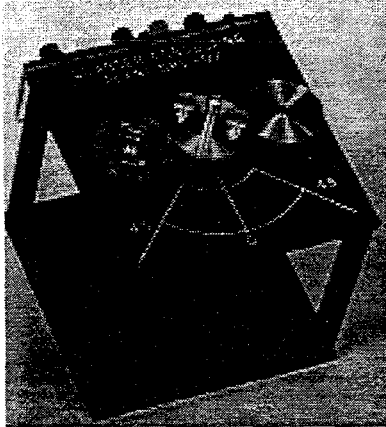
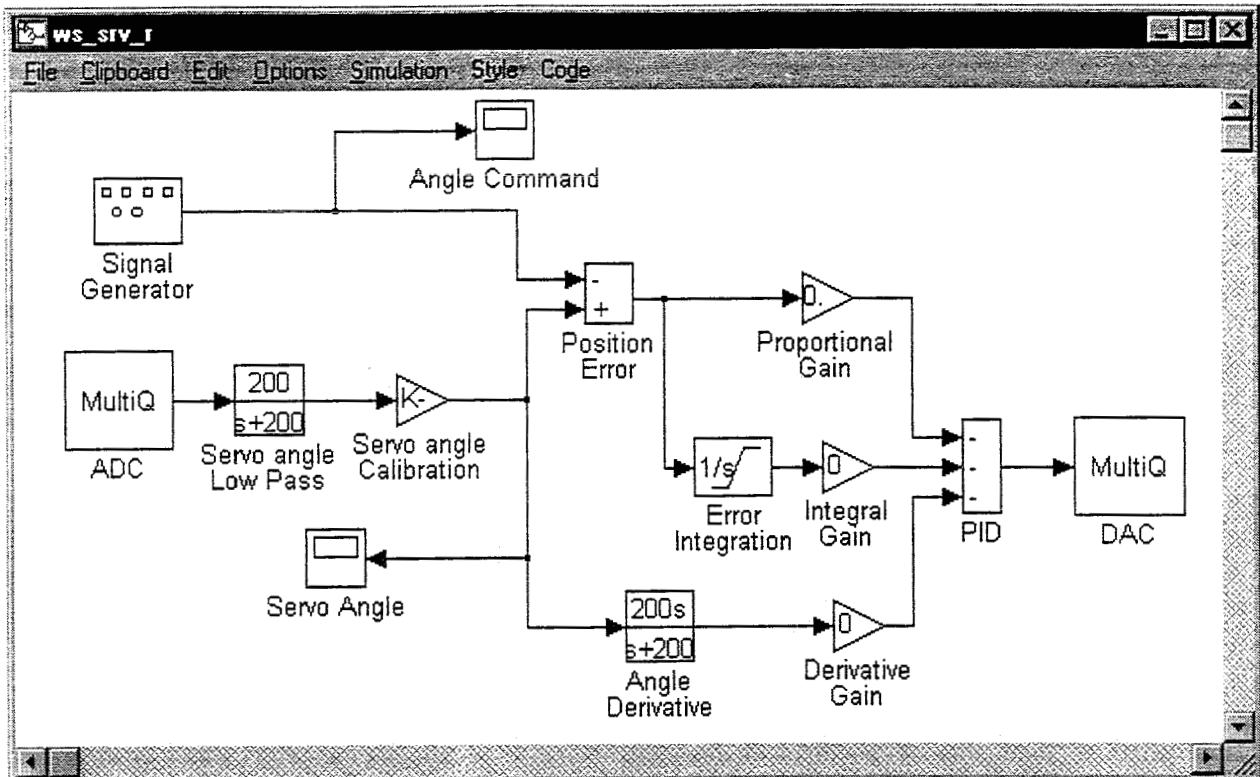

Figure 4.2.1 Rotary position Servo plant
Figure 4.2.2 SIMULINK controller of position servo (PID)
This example demonstrates a PID controller that positions the output of the Servo plant shown in Figure 4.2.1. Start MATLAB from Windows, change directory to `c:\winsim` and type, `ws_srv_r`. This brings up the diagram of the controller shown in Figure 4.2.2. (Note this example is shown in Win95).
- 3) Load `ws_srv_r` by typing `ws_srv_r` in the MATLAB Command Window. This loads the SIMULINK drawing shown in Figure 4.2.1